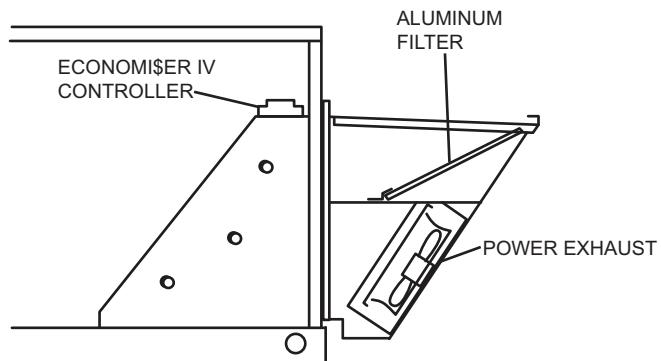

Fig. 12 – Power Exhaust Installed on Unit
4. Lift power exhaust and install over economizer using the #10 x 3/4 in. long screws provided. Make sure wiring harnesses are properly secured. (See Fig. 12.)